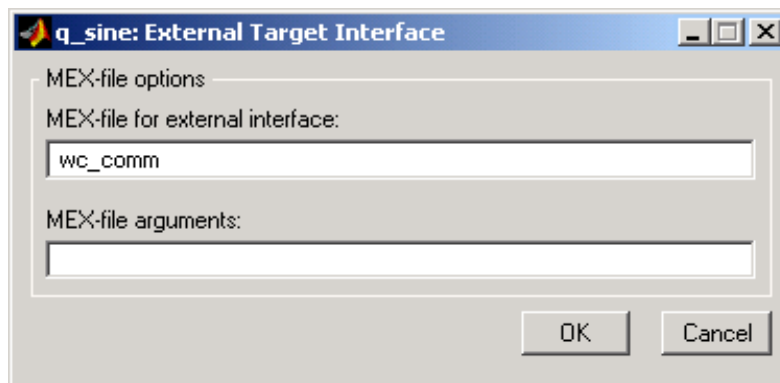

Figure 13 External Target Interface
- ❑ **External Target Interface.** From the Simulink window menu bar, selecting the item *Tools | External mode control panel... | Target interface...* brings up the *External Target Interface* window. Make sure that the *MEX-file for external interface* is set to: *wc\_comm*, as shown in Figure 13.